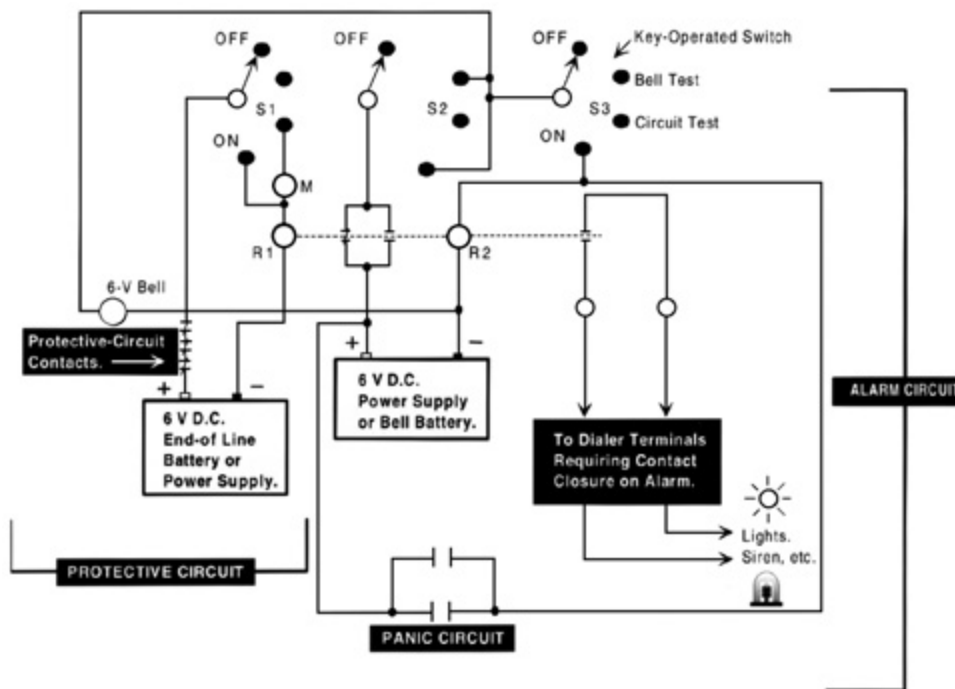

Figure 5.3 Closed-circuit security alarm system.
Figure 5.3 shows another closed-circuit system. The protective circuit consists of a dc energy source, any number of normally closed intrusion-detection contacts (wired in series), a sensitive relay (R_1), and interconnecting wiring. In operation, the normally closed intrusion contacts are connected to the coil of the sensitive relay. This keeps the relay energized, holding its normally closed contacts open against spring pressure, the all-clear condition of the protective circuit. The opening of any intrusion contact breaks the circuit, which deenergizes the sensitive relay and allows spring force to close the relay contacts. This action initiates the alarm.
The key-operated switch shown in the circuit in Fig. 5.3 is provided to open the protective circuit for test purposes. A meter (M) is activated when the switch is set to CIRCUIT TEST. The meter gives a current reading only if all intrusion contacts are closed. All three sections of the switch (S_1 , S_2 , S_3) make contact simultaneously as the key is turned.
Other components of the alarm circuit in Fig. 5.3 include a second energy source, an alarm bell, and a drop relay (R_2). When the keyed switch is at ON, dropout of the sensitive relay (R_1), and closing of its contacts completes a circuit to energize the coil of drop relay (R_2). Closing the drop relay's normally open contacts rings the bell and latches in the drop-relay coil so that R_2 stays energized even if the protective circuit returns to normal and opens the sensitive relay's contacts. As a result, the bell continues to ring until the key switch is turned away from ON to break the latching connections to the R_2 coil.
Drop relays often have additional contacts to control other circuits or devices. The extra contacts in the circuit in Fig. 5.3 are for turning on lights, triggering an automatic telephone dialer, etc. But the main two functions of the drop relay are actuation of the alarm and latching the coil to keep the circuit in the alarm condition.